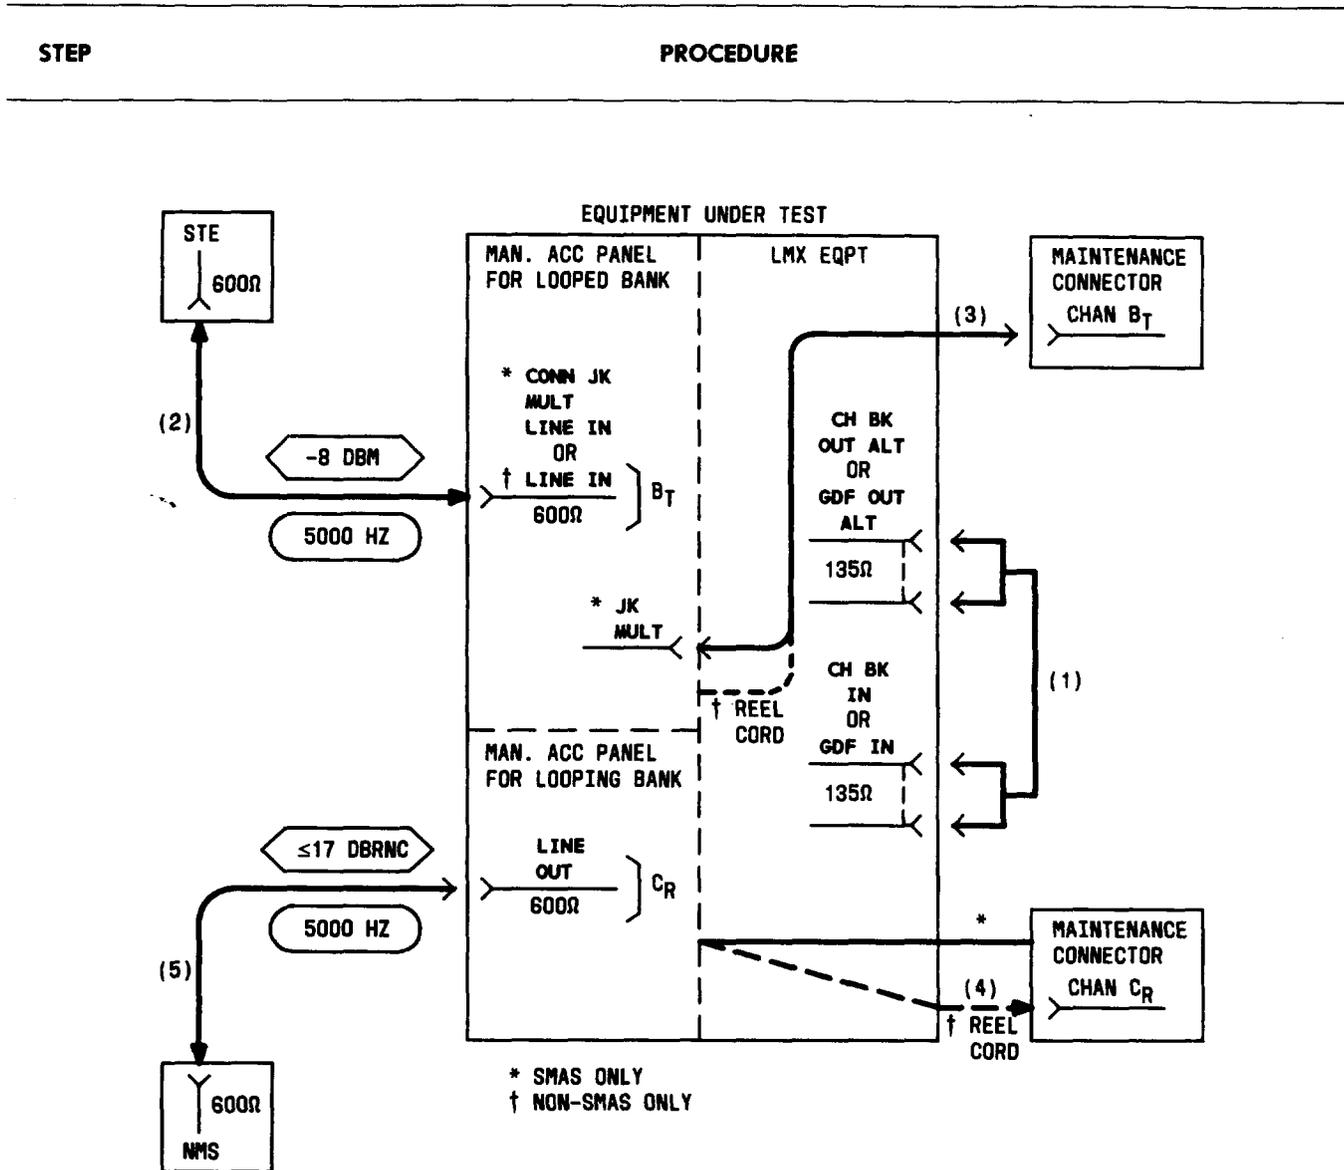

Fig. 25—Patching Diagram—Crosstalk Test—Unequal-Level Looping—Upper Adjacent Channel (5000 Hz)
34a*	Connect the JK MULT connector (on the 22AR or AT MAP) to the CHAN BANK connector (on the maintenance connector) for the looped channel designated Br for Test A in Table L [patch (3), Fig. 25].
- 34b† On the adjacent non-SMAS J98626() frame, connect the retractable cord (on the 22AU MAP) to the CHAN BANK connector (on the maintenance connector on the frame under test) for the **looped** channel designated B_r for Test A in Table L [patch (3), Fig. 25].
- 35b† Connect the retractable cord (on the 22AU MAP) to the CHAN BANK connector for the **looping**-channel position designated C_r for Test A in Table L [patch (4), Fig. 25].
37*	Connect the NMS to the LINE OUT jack [patch (5), Fig. 25].
41	Remove patch (3), Fig. 25 [and patch (4), if used] from the maintenance connector(s).
45	Remove patch (2), Fig. 25.
47†	Remove patch (5), Fig. 25.